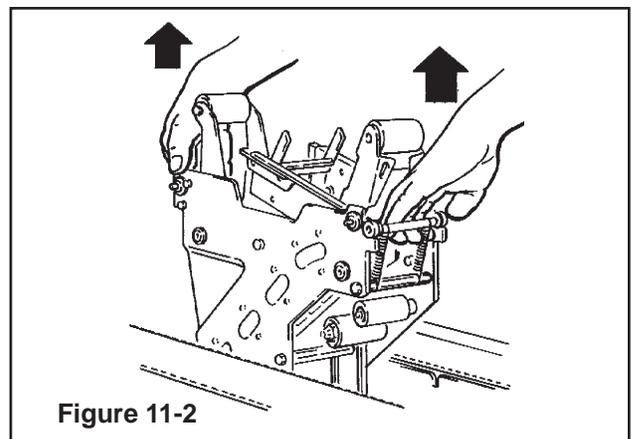

Figure 11-2
1. Lift the lower taping head straight up to remove it from the case sealer bed (**Figure 11-2**).